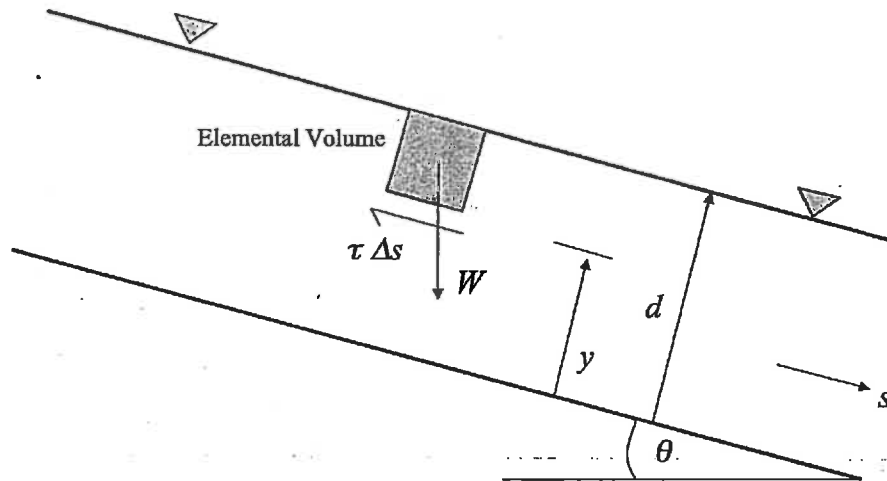

Figure 4. Elevation view of open channel.
5. The open channel in Figure 4 carries flow under steady-state, uniform, and laminar conditions. Pressure in the fluid column is hydrostatic. Under these conditions, a momentum equation can be written to describe the balance between the self weight and shear force that act on the elemental volume of fluid such that